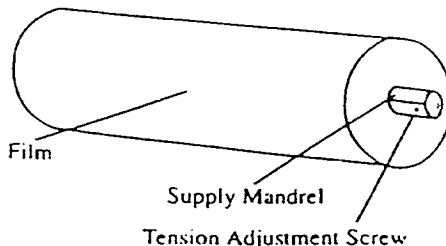

FIGURE 4.2
3. Insert a 7/64" Allen wrench into the set screw located on the right side of the top supply shaft (See Figure 4.2).